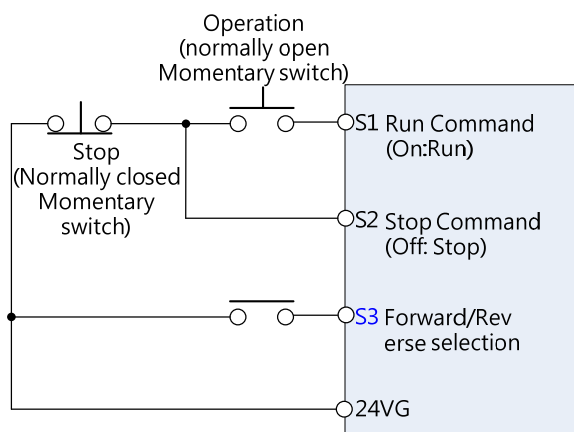

Figure 4.3.2 3 wiring example of 3-wire
- Please refer Fig. 4.3.2 for three wire control mode.
(3) 00-02=2 : Communication
(4) 00-02=3 : PLC